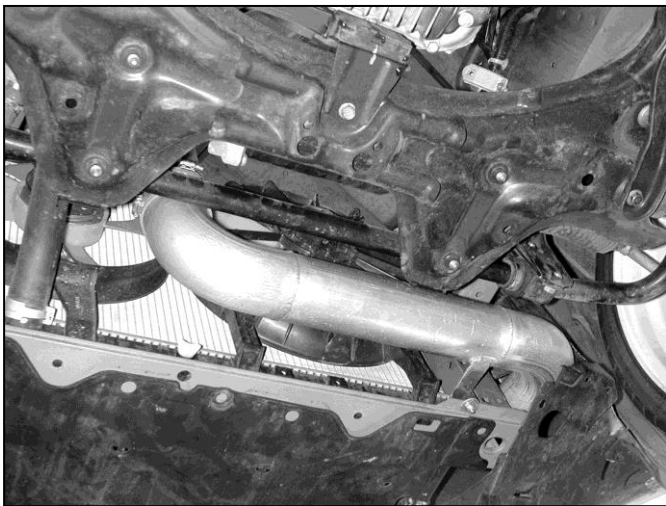

Fig.9
- l. Using the supplied 3” coupler and two No. 48 clamps, install the lower inlet pipe onto the upper pipe with the mounting bracket on top of the rubber isolator. **(Fig. 9)**